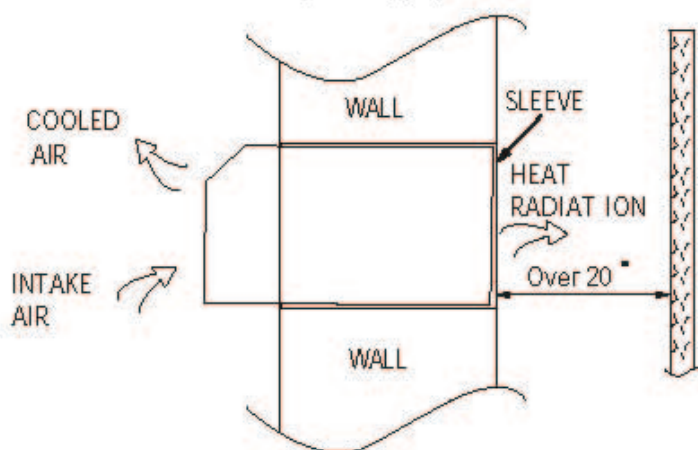

Fig.2
- When installing the sleeve, make certain there is nothing within 20 of the back that would interfere with heat radiation and exhaust air flow. (See Fig.2)